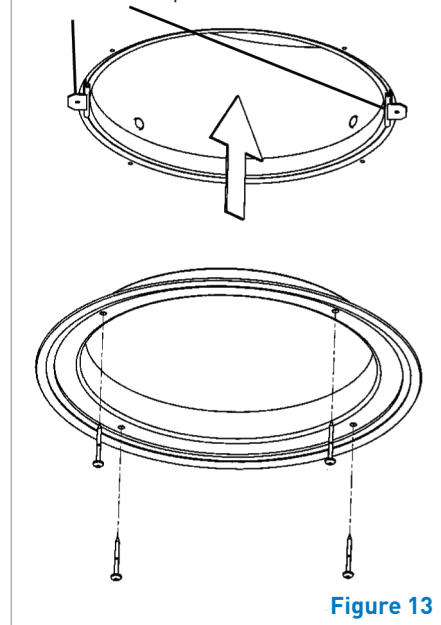

Figure 13
- Before installing the diffuser, fit the retention clips on the bottom edge of the elbow from inside the room. The flat area which contacts the ceiling will stop any movement of the lower connector for the next operation (Figure13).
- Using the holes in the diffuser as a guide, drill small pilot holes up through the ceiling and into the four support clips (Figure 13).